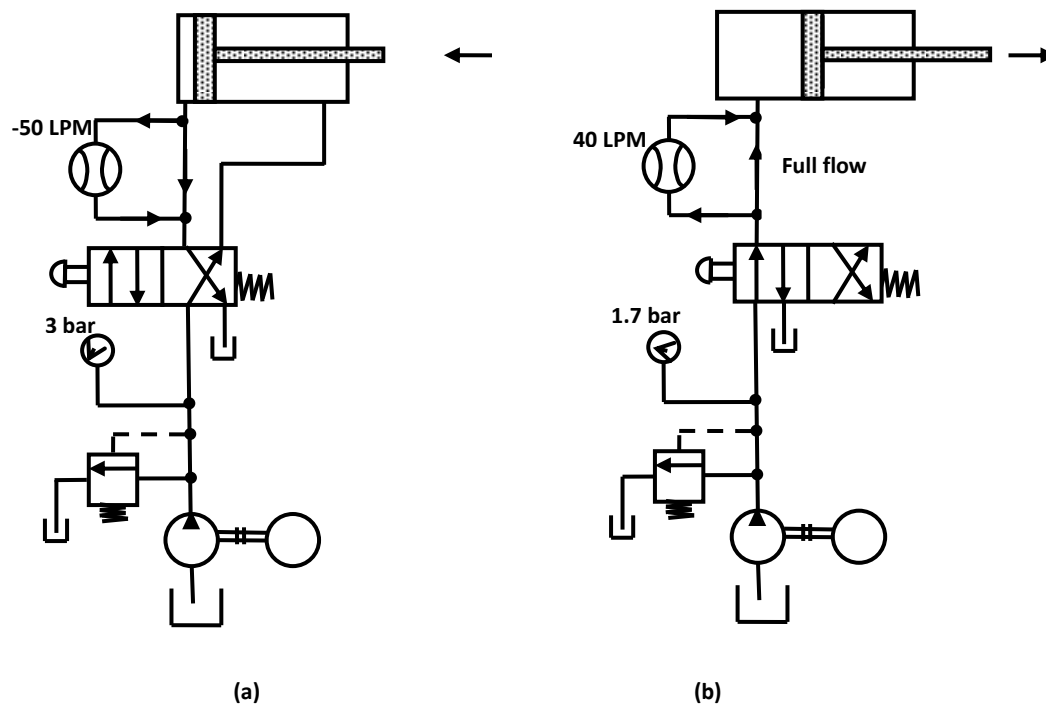

Figure 1.17 Application of a 4/2-way valve – control of single-acting cylinder: (a) return; (b) extend.
- 1. Application of 4/2-way valve to control a double-acting cylinder:** A four-way DCV is used to control a double-acting cylinder. When the valve is in the normal position, the pump line is connected to the end of the cylinder and the blind end is connected to the tank as shown in Fig.1.17(a). The cylinder retracts when the cylinder is in this position. When the cylinder is fully retracted, the pump flow goes over to the pressure relief valve and back to the tank. In Fig.1.17(b), the pump line is connected to the blind end of the cylinder and the rod end is connected to the tank. This causes the cylinder to extend. When the cylinder is fully extended, the pump flow again goes over the pressure relief valve to the tank.